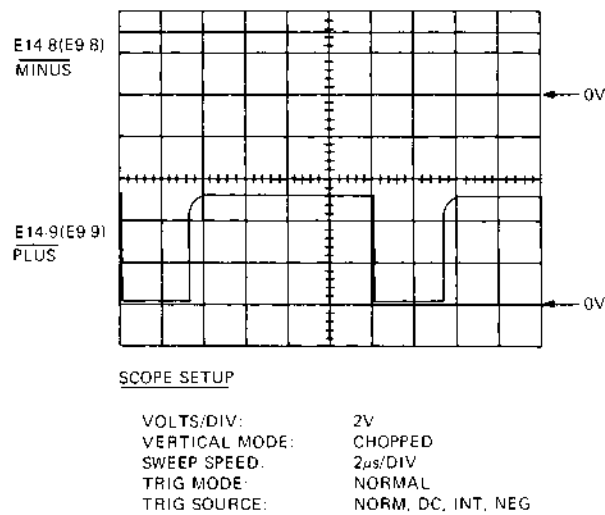

Figure 6-5 DC Servo Motor Being Driven Counterclockwise
9. Connect the scope to the print controller servo output. Connect channel 1 to E14-8/E9-8 (not MINUS), and channel 2 to E14-9/E9-9 (not PLUS). Set the scope as shown in Figure 6-5. The waveform on the scope should match the waveform in Figure 6-5.